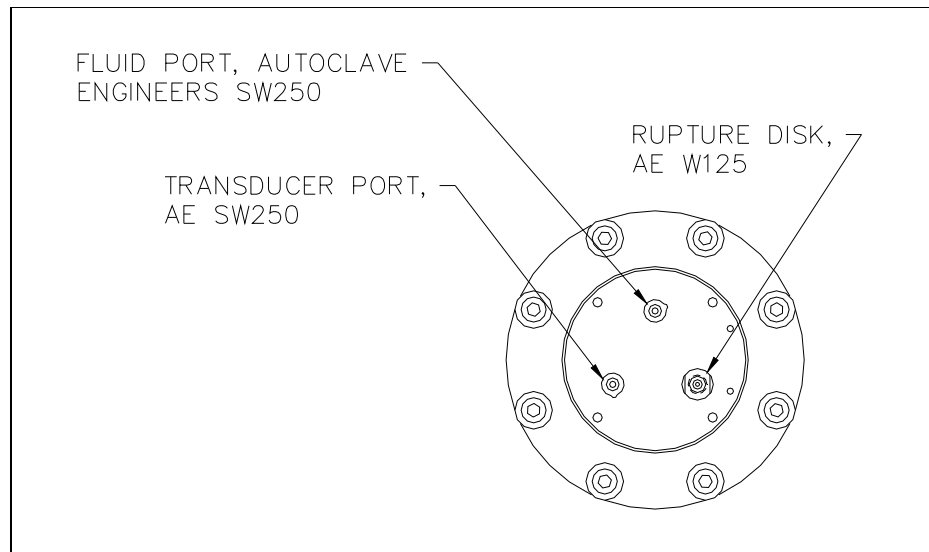

Figure 11-4 Front of Cylinder Barrel
2. Remove the fluid source and remove the tube that connects to the cylinder barrel fluid port. See Figure 11-4.